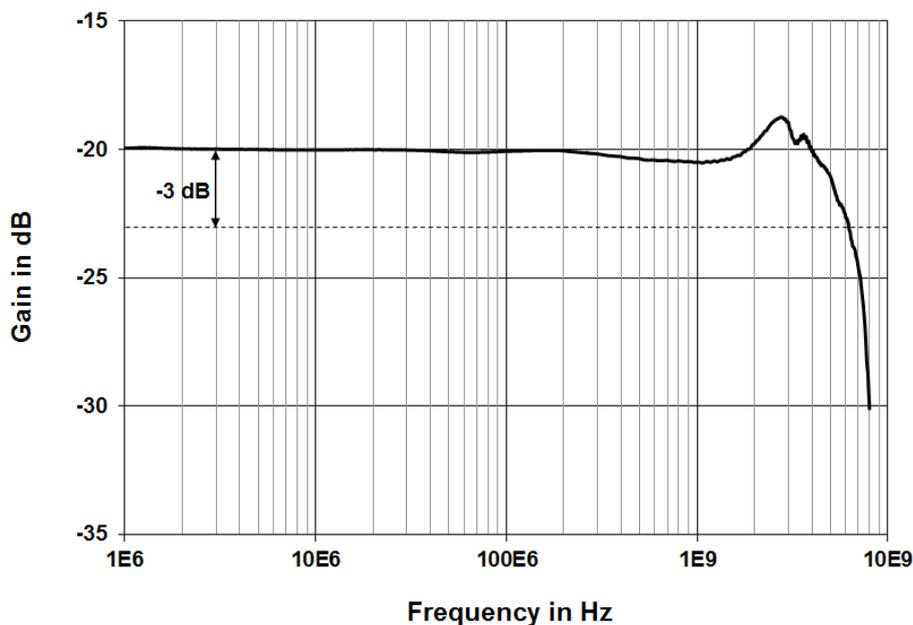

Fig. 5-2: Amplitude frequency response of the R&S RT-ZD40
- Specifies the maximum frequency at which a purely sinusoidal signal is still transferred at 70 % (–3 dB) of its amplitude. See figure 5-2.
In addition to bandwidth, a constant amplitude frequency response of the probe is decisive for high signal integrity. The figure 5-2 shows the typical amplitude frequency response of an R&S RT-ZD40 differential probe. All frequency components are transferred with the same gain so that the input signal is displayed without distortion.